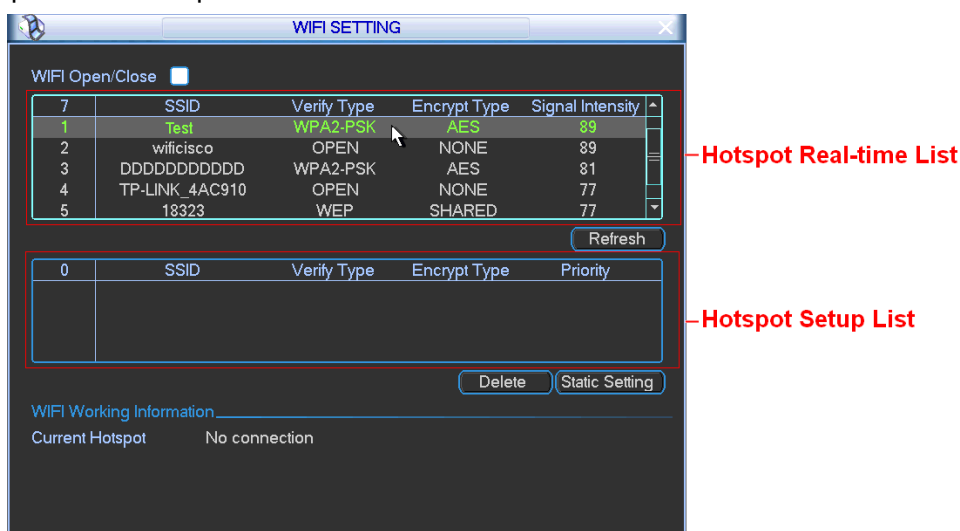
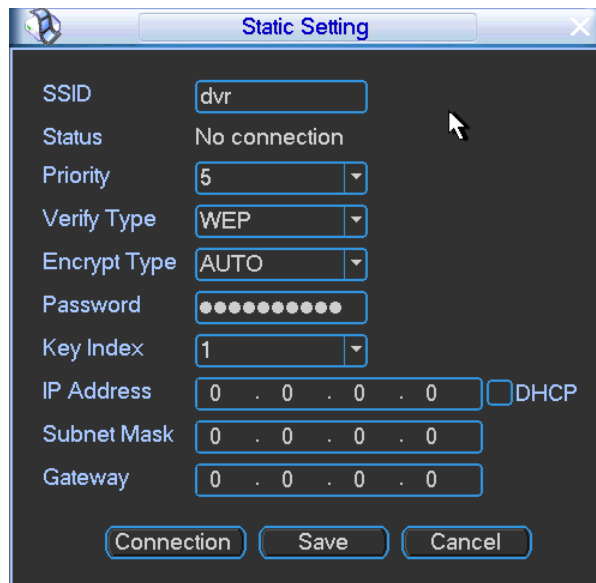

Figure 5-26
Figure 5-29
The WIFI interface is shown as below. See Figure 5-26.
In Figure 5-26, click the Static setting button; you can go to the following interface. See Figure 5-29.
- On the static setting interface (Figure 5-29), only the hotspot of WEB authentication mode can supports key-index.